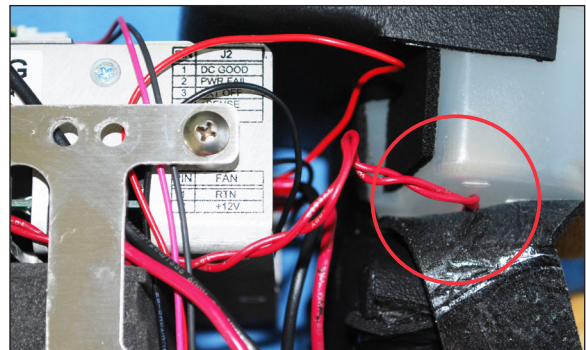

Figure 47 - Step 4 Loosen reservoir insulation
4. Loosen the reservoir insulation sufficiently enough to remove the float switch cable (Figure 47).